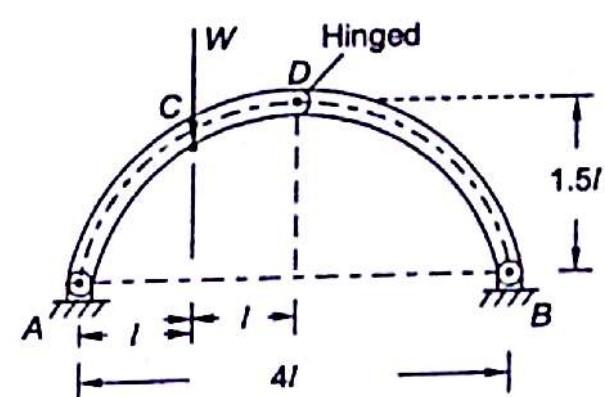

Fig. 3.53
- 3.7** A 3 hinged arch with horizontal length $4l$ and vertical height $1.5l$ is subjected to vertical load W at point *D* as shown in Fig. 3.53. Determine components of reactions at *A* and *B*.